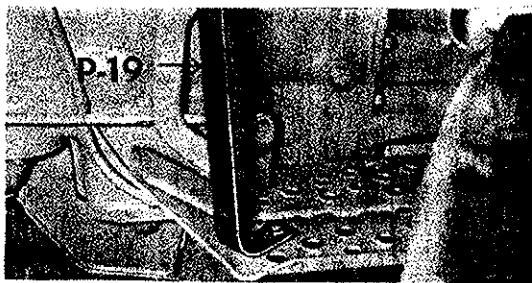

Figure 4
4. Bolt the lower end of P-19 door post to left step as shown in Figure 4. Use the front hole in the third row from outside to properly locate the position for the P-19 upright.